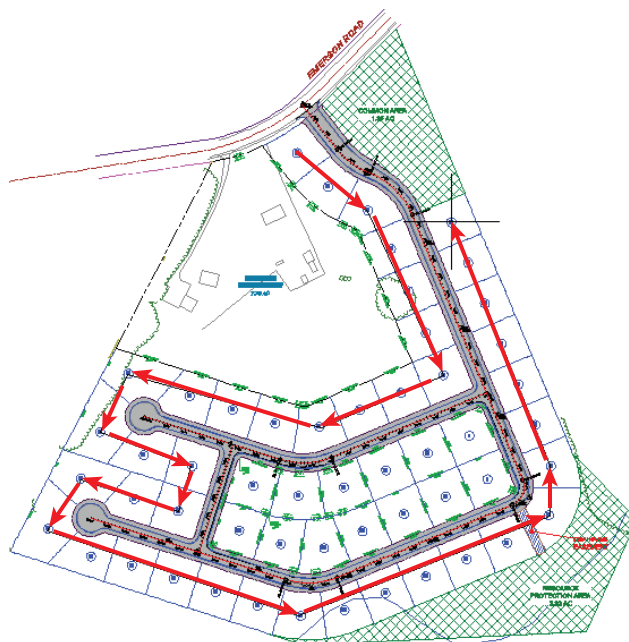

FIGURE 13.6 Selecting parcels in the order they are to be renumbered
4. When you're prompted to specify a start point, click near the center of lot 24. Then, to select the parcels in the correct order, draw the line segments indicated by the red arrows in Figure 13.6.